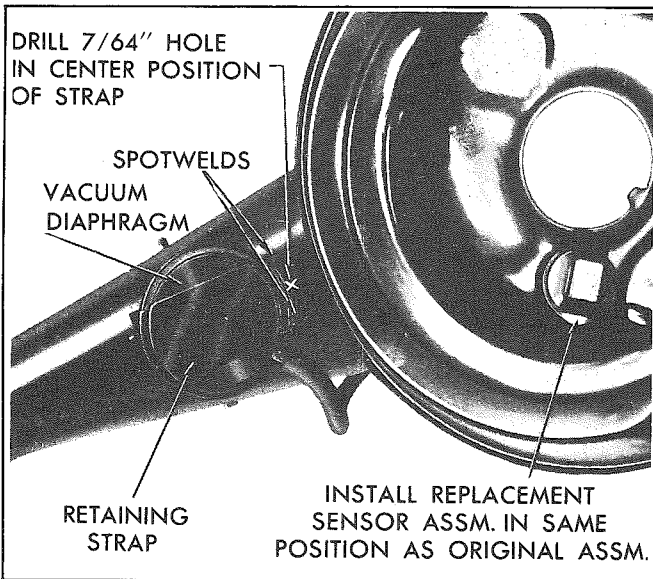

Figure 54 – Vacuum Diaphragm Replacement
1. Drill a 7/64-inch hole in the snorkel tube at center of vacuum motor retaining strap (see figure 54).